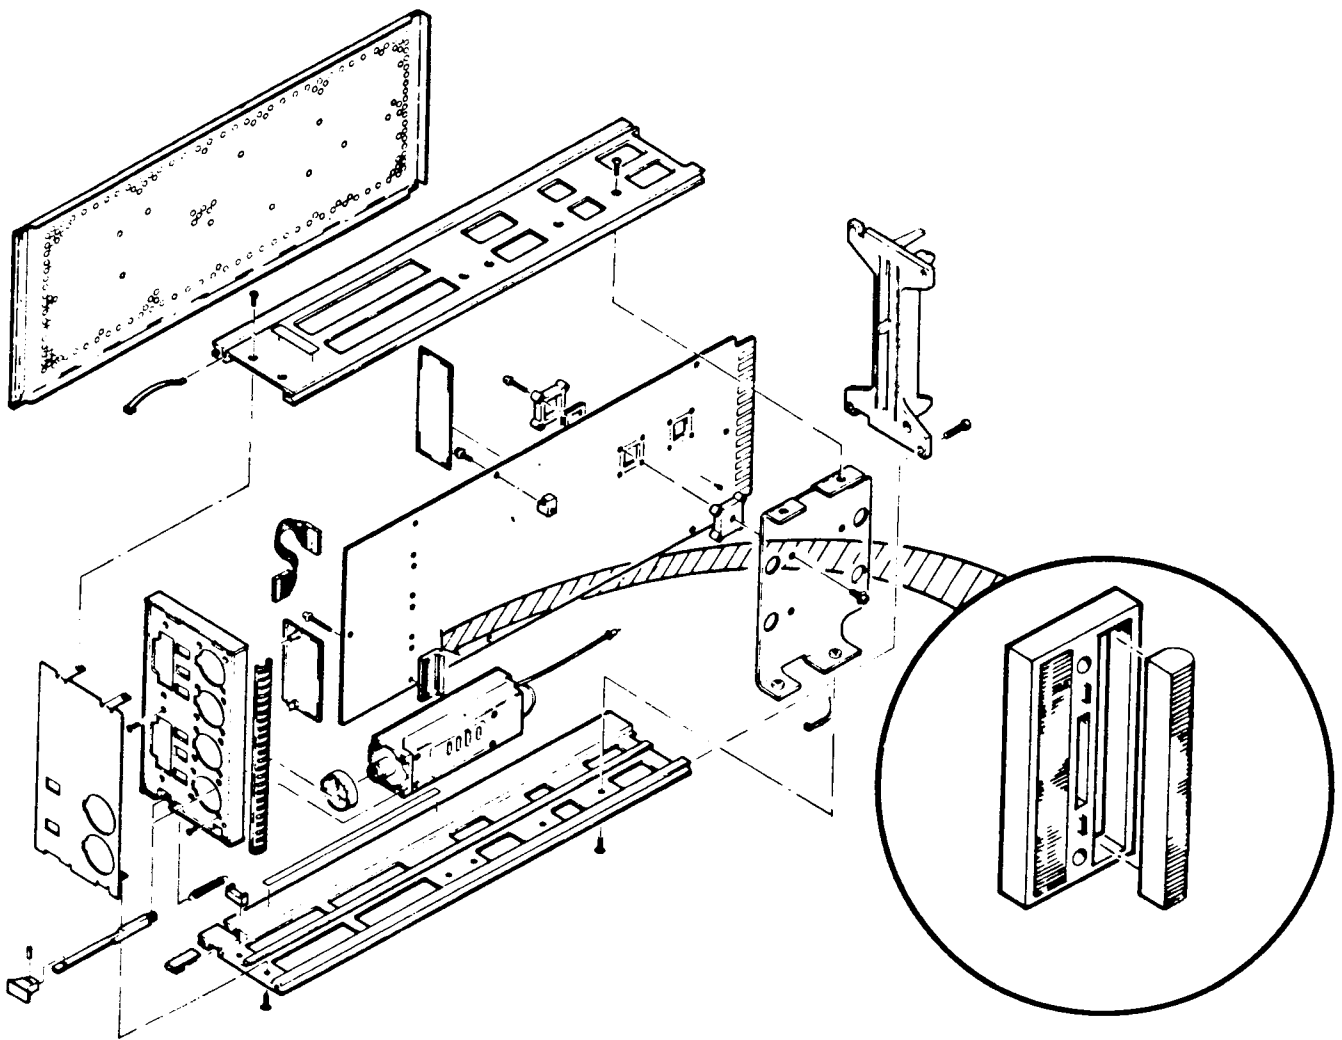

Figure 1. - Exploded view.
- () 6. Remove the two (2) torx screws that secure the attenuator to the Main circuit board using a T-9 torx screwdriver. The screws are located on the front (component) side of the Main circuit board.
- () 9. Remove the four (4) torx screws that secure the attenuator to the front subpanel, using a T-6 screwdriver. Use T-6 tip only, any other size may damage the screw drive system.
- () 12. Install the two (2) new MOE strips that are provided in this kit, placing the strips in the holders. The exposed elastomer side of the MOE strips face towards the center of the holder, refer to figure 1.